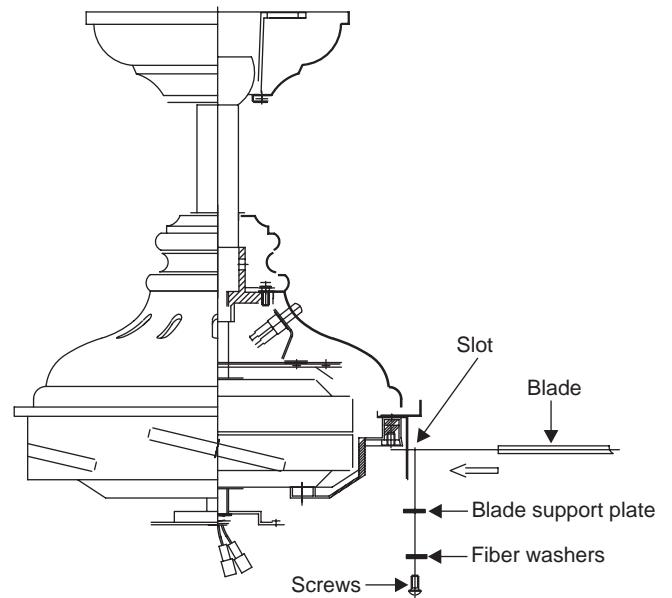

Figure 16
Step 1. Insert the blade through the blade slot in the decorative housing. Align the holes in blade and blade bracket, place the blade support plate on blade as showing in Figure 16, making sure the holes are also aligned and secure with the screws and fiber washers provided.